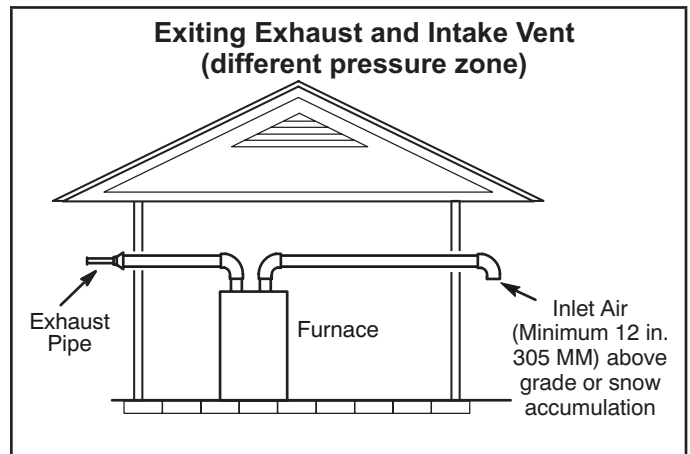
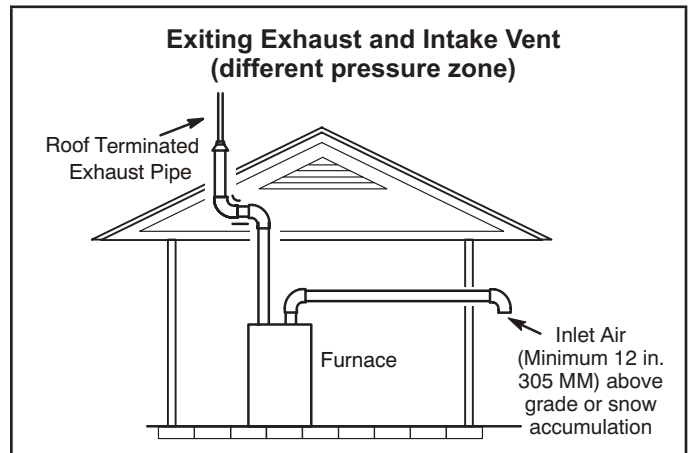

FIGURE 31
FIGURE 32
- 1 - Intake and exhaust terminations are not required to be in the same pressure zone. You may exit the intake on one side of the structure and the exhaust on another side (FIGURE 31). You may exit the exhaust out the roof and the intake out the side of the structure (FIGURE 32).